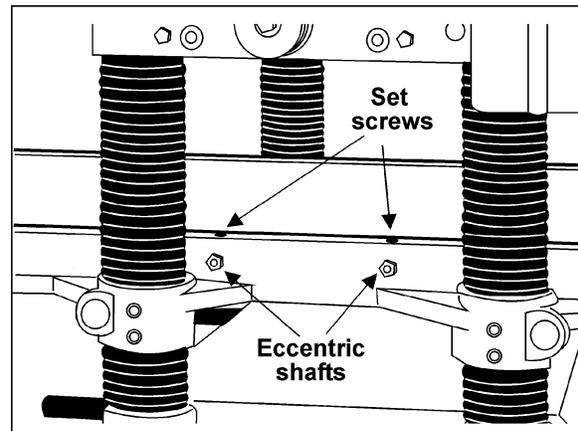

Figure 15
3. On one side of the table, loosen the set screws (Figure 15) with a 3mm hex wrench, and turn the eccentric shafts to raise or lower the rollers.